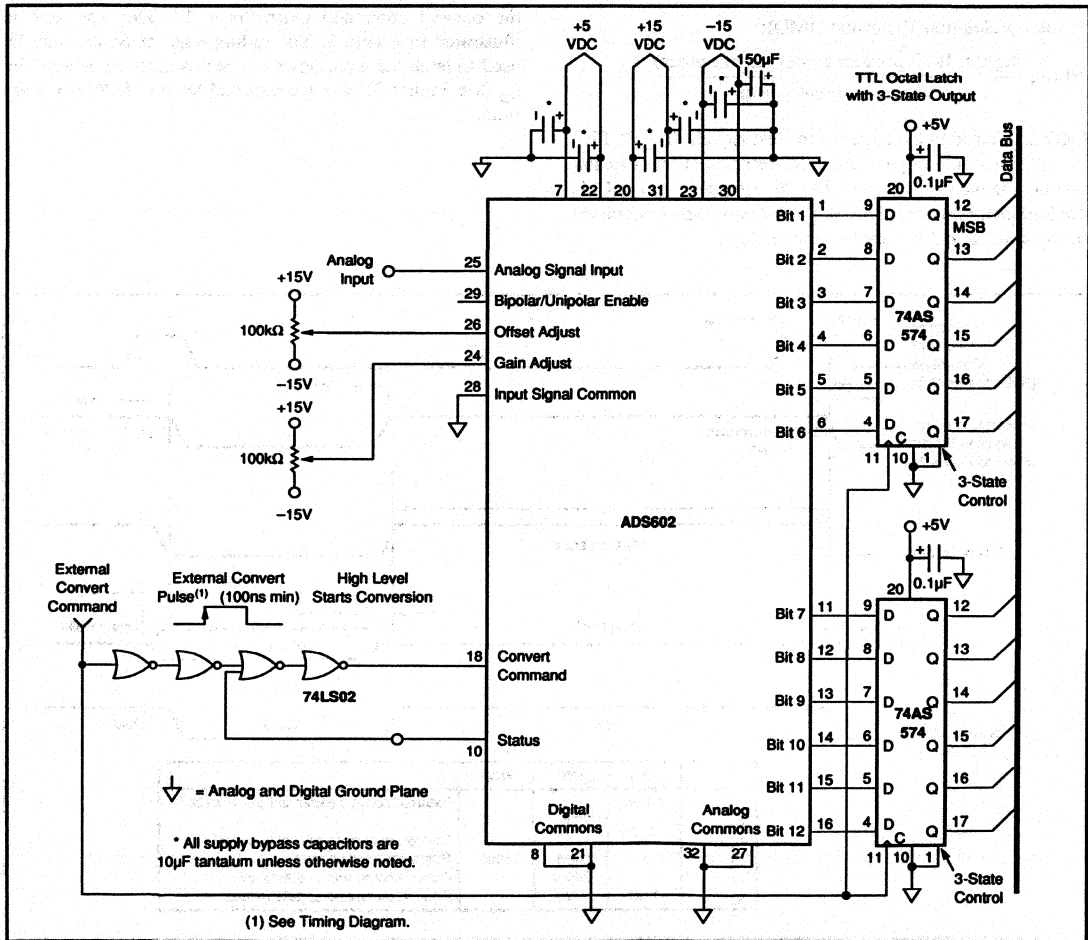

FIGURE 2. ADS602 Application Circuit.
The basic connection for the ADS602 is shown in Figure 2. It is shown connected for  $\pm 5V$  bipolar operation. For unipolar operation, pin 29 should be grounded.
The +15V and +5V power supply pins should be bypassed with a 10 $\mu$ F tantalum capacitor as shown in Figure 2. Pin 30 requires bypassing with a 150 $\mu$ F tantalum capacitor. These capacitors should be located close to the ADS602 supply pins. Ceramic 0.01 $\mu$ F bypass capacitors have been provided internally for more effective bypassing and need not be added externally.
Gain and offset errors may be trimmed to zero using external trim potentiometers as shown in Figure 2. Multiturn potentiometers with 100ppm/ $^{\circ}$ C temperature coefficient are recommended for minimum drift. If the gain adjust or offset adjust pins are not used, they must be grounded to meet the specified accuracy.
2. The rising edge of the convert command pulse initiates a conversion. This convert command should remain high until the Status falls (i.e., the internal ADC is finished converting). A simple circuit that provides the correct convert command (pin 18) pulse length, is shown in Figure 2.
4. The data from conversion "N" can be latched directly by the convert command pulse "N + 1". This approach is illustrated in Figure 2. The falling edge of Status may be used to latch the data; however, Status must be delayed by  $t_{SD}$  (see Figure 3) plus the external latch (74AS574) setup time.